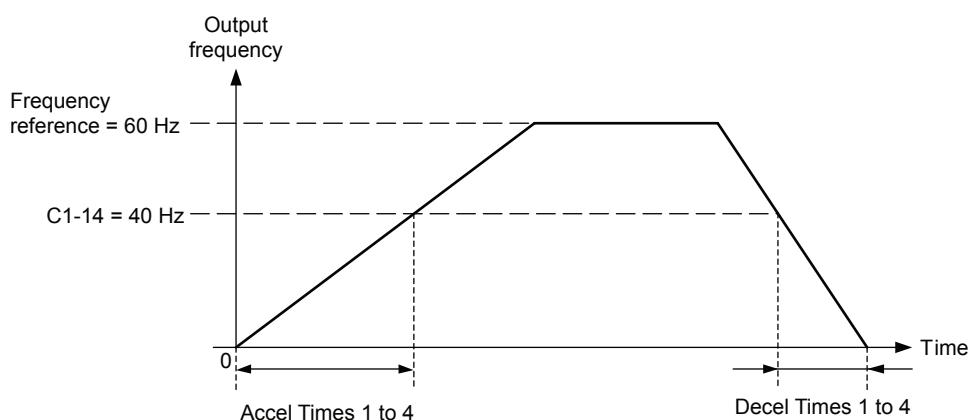

**Figure 5.25 Accel/Decel Rate, Example 1 (C1-14 = 0 Hz, E1-04 = 60 Hz, Frequency Reference = 60 Hz)**
Operation example is shown in Figure 5.25.
1. The accel/decel times shown in Figure 5.25 to Figure 5.27 assume S-curve characteristic time during accel/decel at start and accel/decel at stop of 0.00 s (parameters C2-01 to C2-04).